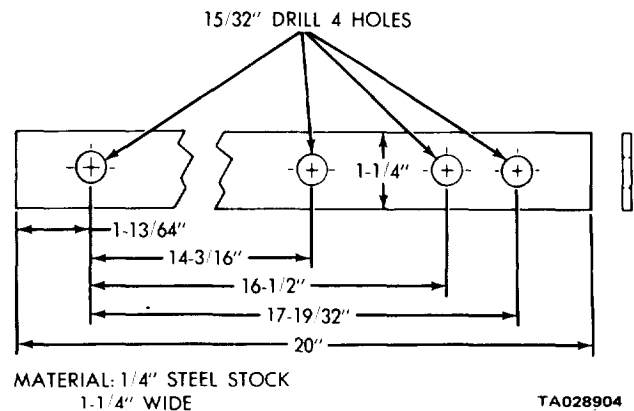

Figure 4-17. Hub SW Cup Retaining Strap.
(2) Remove the necessary front pump housing bolts and the vent shield. Install the vent plug (rubber stopper), and the vent plug retainer, preferably using longer bolts than those removed.
(3) With rotary motion, install the converter hub seal cup over the input shaft and through the converter hub seal until the cup bottoms against the pump rotor lugs. Secure it with the cup retainer strap (figure 4-17) using the converter-housing-to-engine-block retaining bolts.